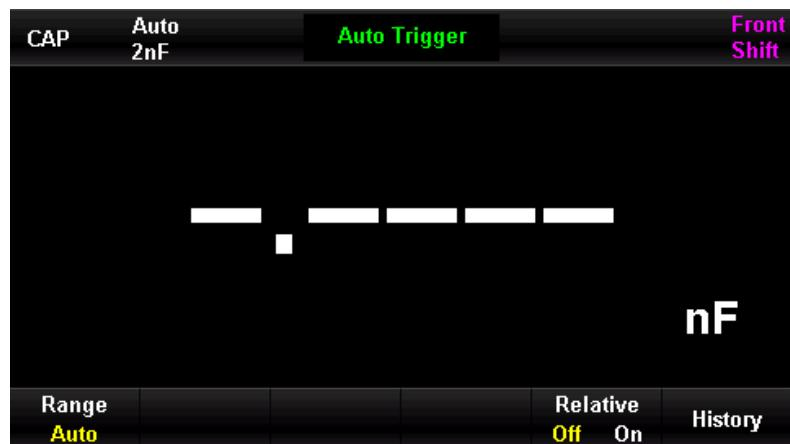

Figure 0-28 Capacitance Measurement Menu
2. As shown in Figure 0-28, connect the test leads to the signal to be measured, the red test lead to the "Input-HI" terminal and the black test lead to the "Input-LO" terminal.